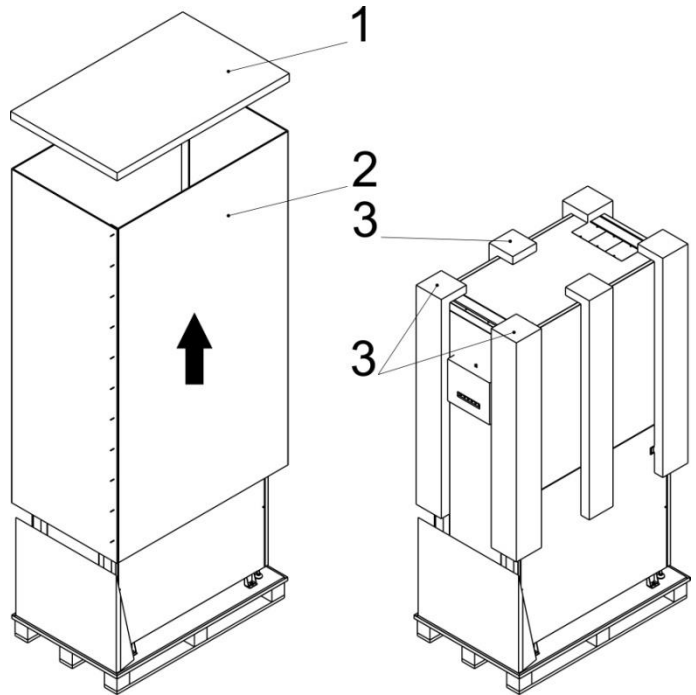

Figure 3-10
2. Please follow the order in Figure 3-10 to remove carton and foams.